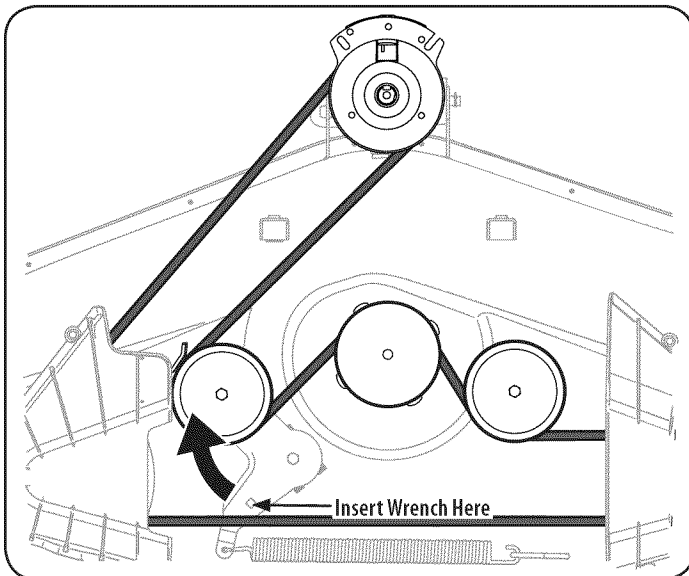

Figure 25
- c. Working on the right side of the tractor, insert a $\frac{3}{8}$ " drive ratchet wrench, set to tighten, into square hole found on the idler bracket. See Figure 25.
2. Use the wrench to pivot the deck drive pulley forward. See Figure 25.